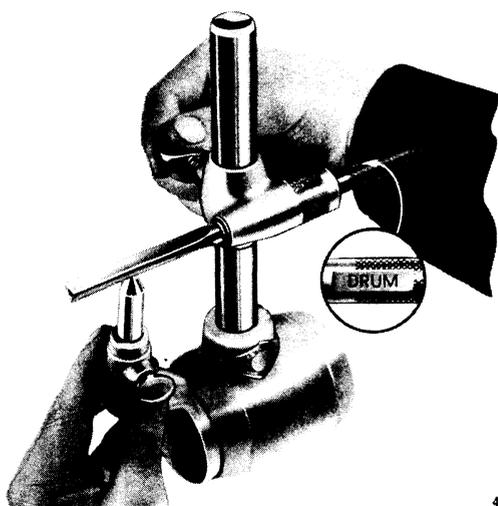

Fig. 20—Setting Brake Shoe Gauge
- (2) Transfer inside drum diameter from drum gauge by setting the brake shoe gauge arbor so that the finger marked "DRUM" just contacts the point of the brake drum gauge pin, as shown in Figure 20.